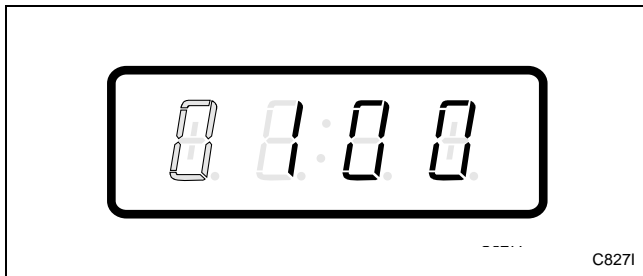

Figure 47
6. Press the START (enter) keypad to enter the fifth digit and display remaining four digits. The active digit will flash one second on and one second off. Refer to *Figure 47*.